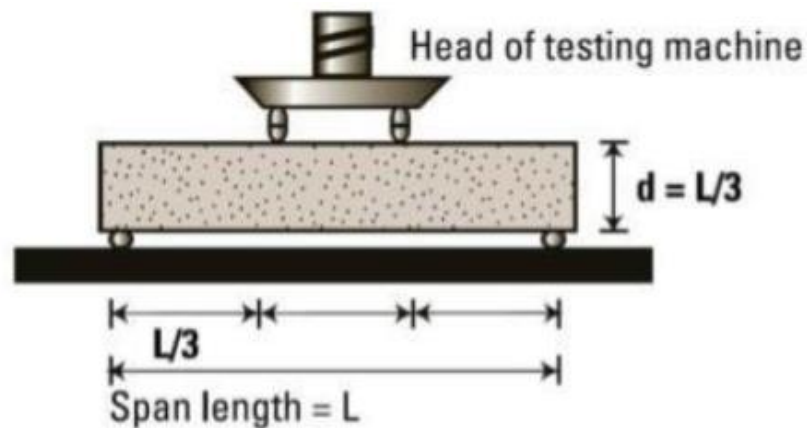

Fig.10.2 Flexural Strength Test
11.2 Determine the flexural Strength of Concrete, which comes into play when a road slab with inadequate sub-grade support is subjected to wheel loads and / or there are volume changes due to temperature / shrinking as shown in Fig.10.2